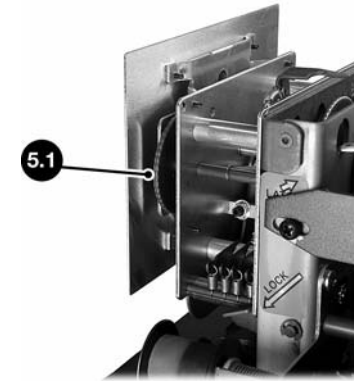

Figure 5
3. Rotate the Clock Face Setting Wheel - **Figure 5, 5.1** to set the hands to match the time set on the wheels.
DO NOT TURN THE CLOCK HANDS EXCEPT BY USING THE SETTING WHEEL - Figure 5, 5.1.